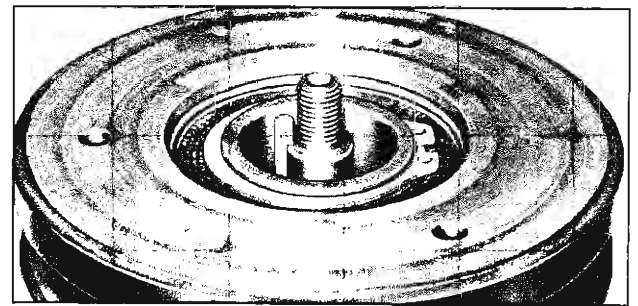

Fig. 26—Drive Plate Key Installed in Keyway
1. Insert the square hub and drive plate key into the keyway in the drive shaft allowing it to project approximately $\frac{3}{16}$ " out of the end of the keyway (fig. 26).